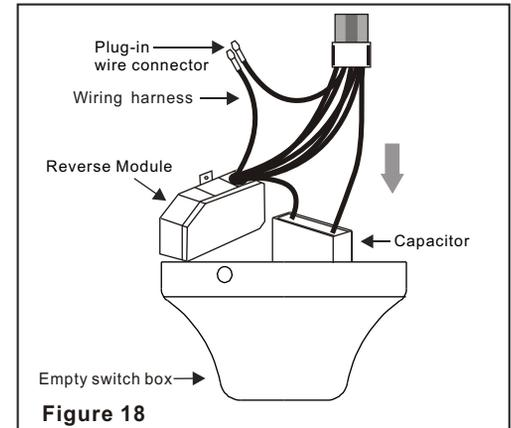

**Figure 17**
2. Carefully push all wires back into the switch housing, then install the light kit assembly onto the mounting plate with 3 screws provided. Be sure to tighten all screws. (Fig. 17)
3. Remove the lock ring from the socket by turning the lock ring counter-clockwise until it unlocks. Insert the glass into the glass holder and turn the lock ring clockwise to tighten the glass. Repeat for the remaining glass. (Fig. 17)